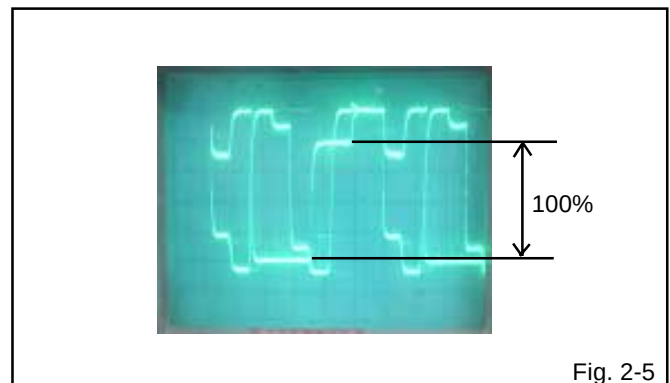

Fig. 2-5
6. Press the VOL. UP/DOWN button on the remote control until the red color level is adjusted to $100 \pm 5\%$ of the white level. (Refer to **Fig. 2-5**)